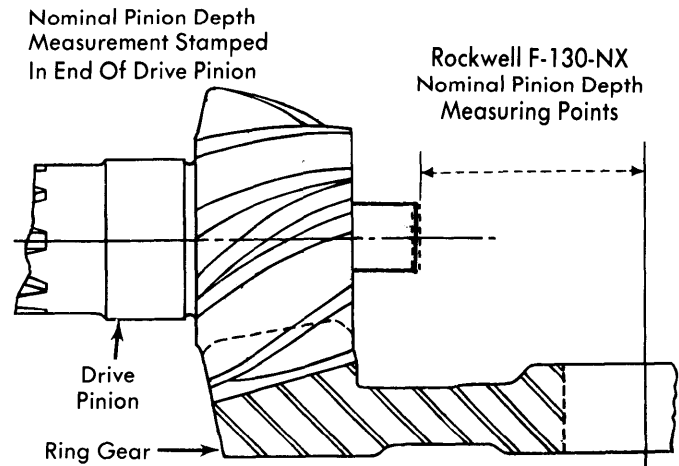
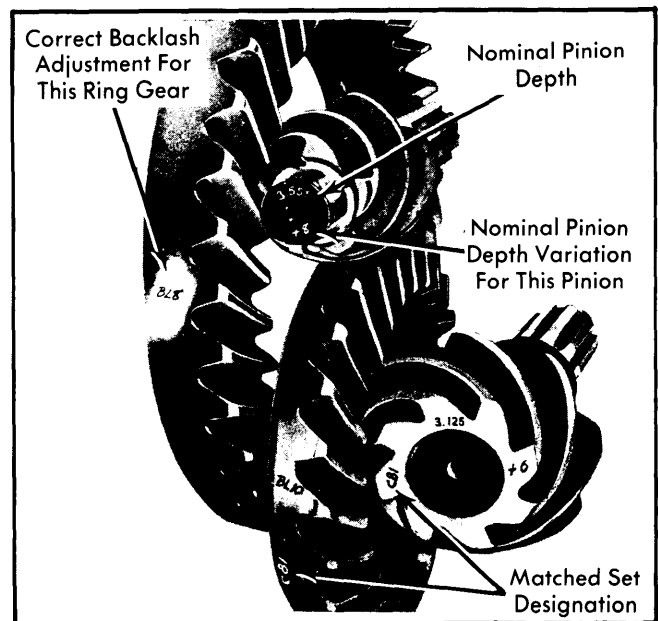

Fig. 6 Nominal Pinion Depth Measuring Points For Rockwell F-130-NX Drive Axle
Fig. 7 Drive Pinion and Ring Gear Marking Codes
**Pinion Depth Adjustment** — 1) This procedure should be used to check and adjust pinion depth if a new ring gear and pinion are being installed. The nominal dimension, stamped in gear end of pinion, is for the purpose of correctly adjusting pinion depth. Actual measuring points in nominal dimension are shown in Fig. 6. Each pinion is also stamped with its individual variation from the nominal depth. The variation is either a plus or a minus figure. Plus figures should be added to the nominal depth and minus figures subtracted. Another code stamped in end of pinion and on ring gear face, indicate a matched set. Correct backlash specification is also stamped on ring gear. This specification falls between specification given in specification table and in text. See Fig. 7.